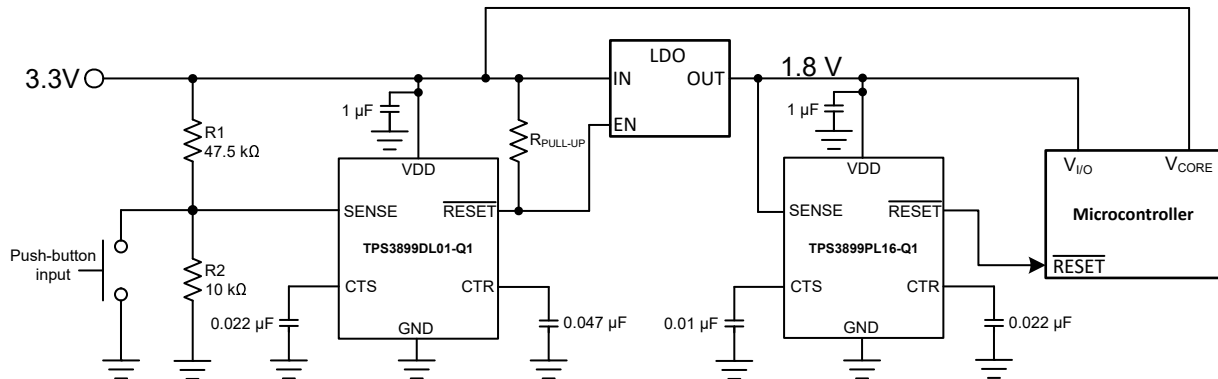

Figure 8-1. TPS3899-Q1 Voltage Rail Monitor and Power-Up Sequencer Design Block Diagram
A typical application for the TPS3899-Q1 is voltage rail monitoring and power-up sequencing as shown in Figure 8-1. The TPS3899-Q1 can be used to monitor any rail above 0.8V. In this design application, two TPS3899-Q1 devices monitor two separate voltage rails and sequences the rails upon power-up. The TPS3899DL01-Q1 is used to monitor the 3.3V main power rail and the TPS3899PL16-Q1 is used to monitor the 1.8V rail provided by the LDO for other system peripherals. The RESET output of the TPS3899DL01-Q1 is connected to the enable (EN) input of the LDO with an external pull-up resistor $R_{PULL-UP}$ to the 3.3V power rail. The RESET output of the TPS3899PL16-Q1 is connected to the (RESET) input of the microcontroller. A reset event is initiated on either voltage supervisor when the VDD voltage is less than V_{IT-} falling threshold voltage. For a system reset event, a push-button input is placed at the SENSE pin of the TPS3899DL01-Q1.